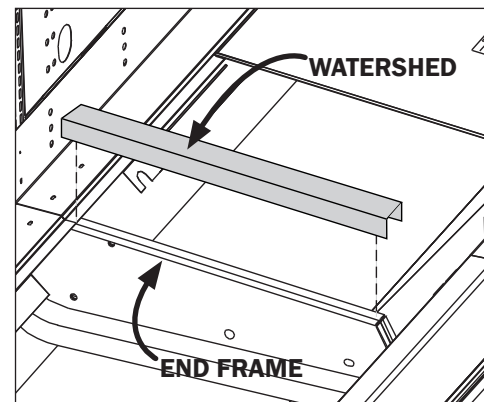

Fig. 4 Sealing the pipe chase
- Apply case-to-case watershed (supplied) over the end frame seam (Fig. 4). The watershed prevents water from settling in the case joint.